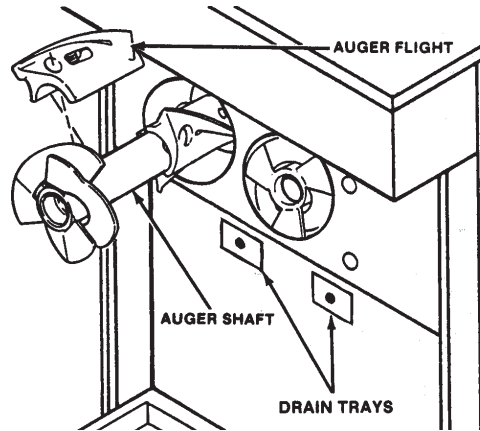

Figure 24. Auger Shafts
- E. Remove the auger assemblies from the freezer. Pull the augers out of the freezer barrel slowly. As the augers are being pulled out, carefully remove each of the plastic flights with springs (Fig. 24).